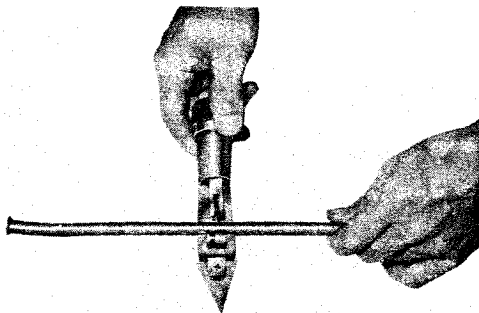

Fig. 41
- A) Refrigerant pipe cutter is used when cutting the copper tube. See Fig. 41.